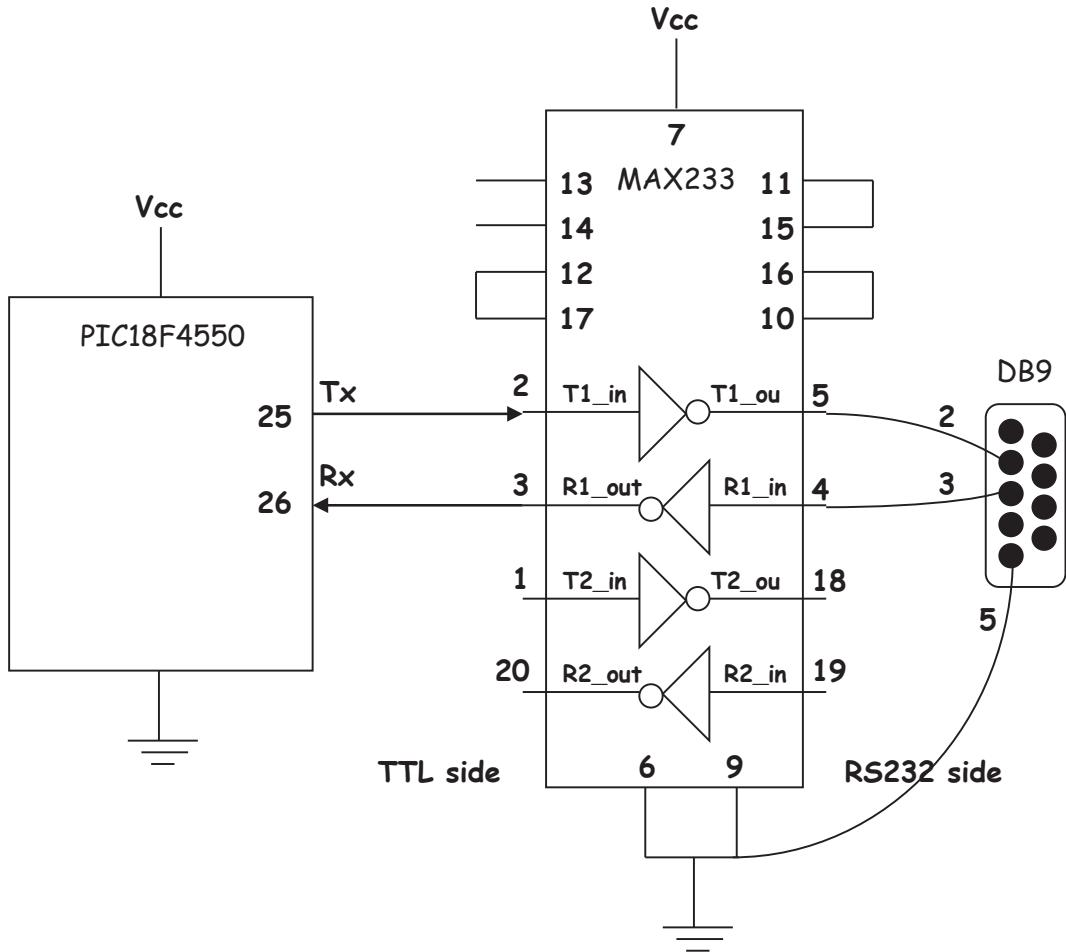

Figure 8.8 – Connecting PIC18F4550 to MAX233 and then to DB9
- You can check whether your PIC-based system can send or receive data through its serial port by connecting it (see Figure 8.8 / 8.6) to the COM port of an IBM PC/compatible and running the Hyper-Terminal software on the PC.